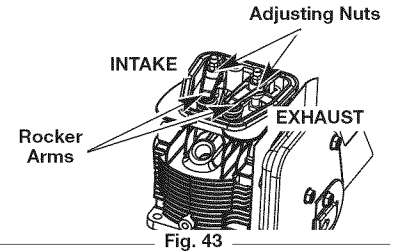

Fig. 43
7. Slide the feeler gauge between the rocker arm and the top of each valve stem. Measure the clearance between the valve stem and rocker arm (Fig. 43). Measure both the intake and exhaust valves.
The recommended clearance for both intake and exhaust is .003 – .006 in. (.076 – 0.152 mm). Use a standard automotive .005 in. (0.127 mm) feeler gauge. The feeler gauge should slide between the rocker arm and valve stem with a slight amount of resistance, without binding. Figure 43 and 44 show how to measure the clearance.
- a. Turn the adjusting nut using a 5/16 inch (8 mm) wrench or nut driver (Fig. 43).